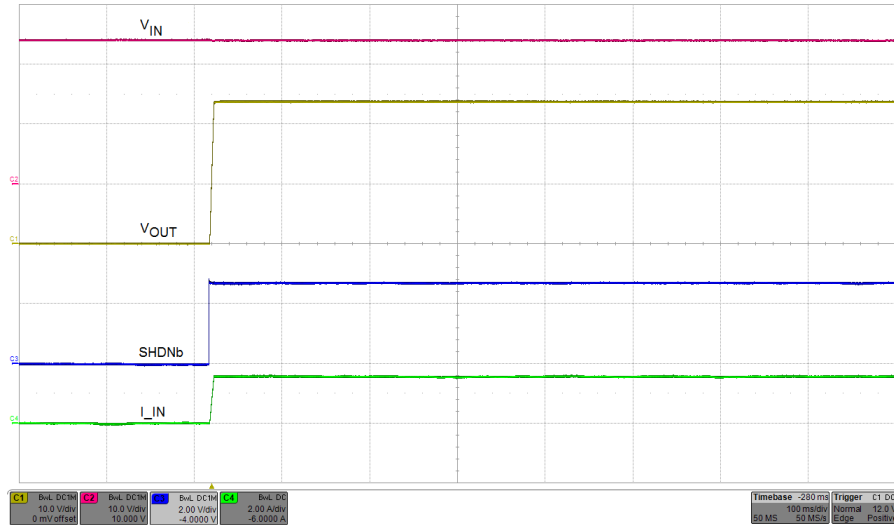

Figure 4-5. Restart From Latch-Off Mode
- Press and release the reset switch (S1/S2) to re-enable the device from latch-off mode and verify the recovery or restart waveform as shown in Figure 4-5.